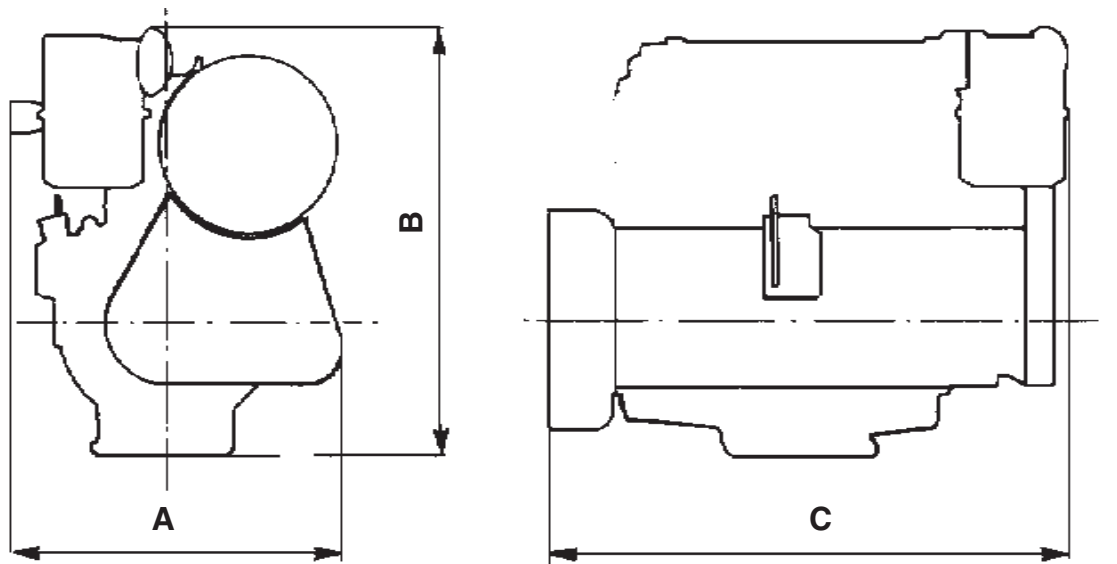

Fig. 2.1
2.1 ENGINE DIMENSIONS (FIG. 2.1)